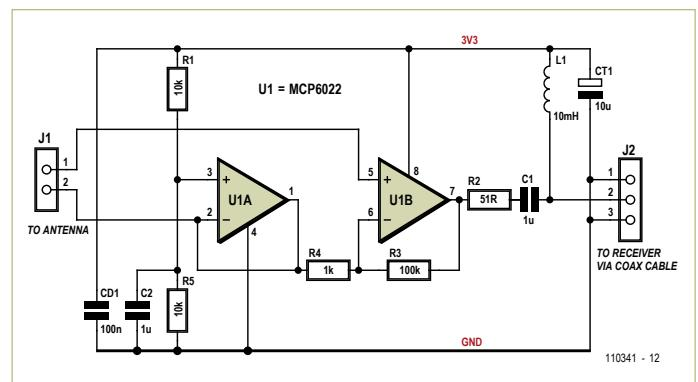

Figure 1. DCF77 antenna preamplifier circuit. The 3.3 V supply voltage arrives via the downlead coax cable.
77.5 kHz. This is combined with an op-amp gain stage shown in **Figure 1** to form the line-powered active antenna capable of driving a reasonable length of coax cable to the receiver board.